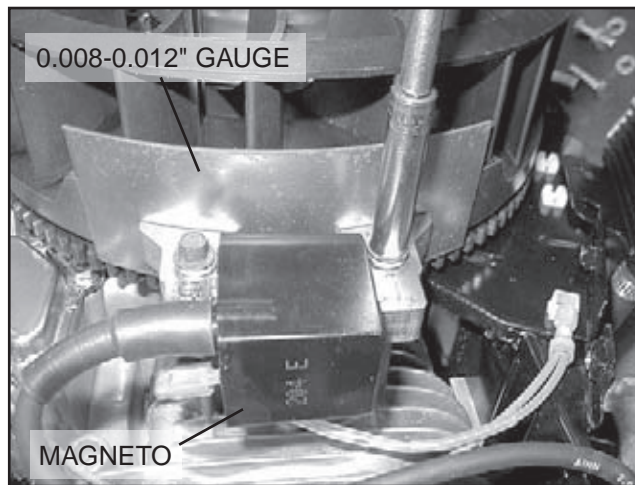

Figure 31. Setting Ignition Magneto (Armature) Air Gap
1. See Figure 31. Rotate the flywheel until the magnet is under the module (armature) laminations.